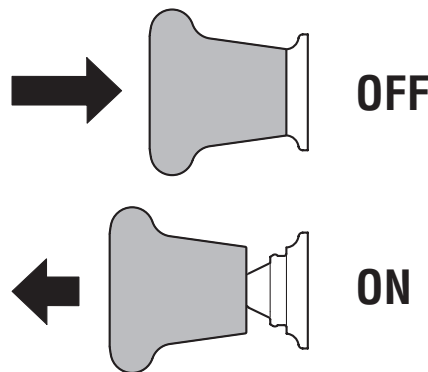

Figure 3-4
2. Pull the PTO switch up/out into the engaged (ON) position. See Figure 3-4.